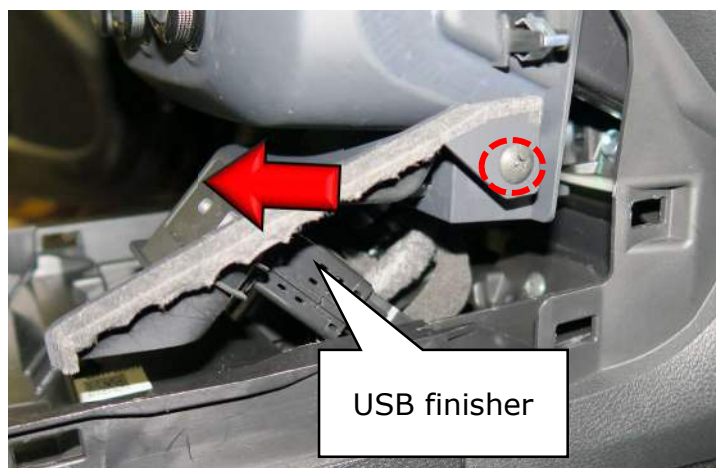

Figure 15
14. Disengage the USB finisher. (Figure 15)
- Remove the (1) screw from the RH side of the console tray (USB) finisher.